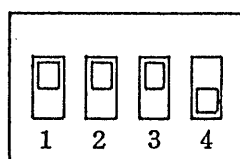

Figure 4.14
The standard switch setting (the setting for standard operation of the instrument, as set when the instrument is shipped) is as shown in Figure 4.14. By changing the settings of individual switches (1 - 4), settings can be made for the four different modes (1) - (4) as explained in the following. Since modes (1) - (5) are mutually independent, they can be set in any combinations as required.